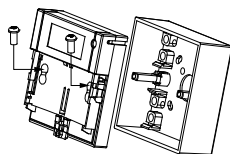

Fig. 5: Fixing screws for front and bottom
2. Unscrew the frame with the two screws shown in Fig 5.
3. Screw the base to the wall with the supplied CS3 x 30 screws (see fig. 5).